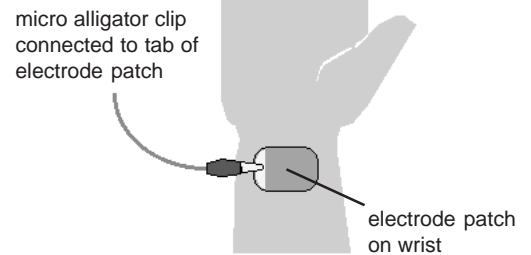

Figure 6
2. Connect the micro alligator clips from the sensor to the tabs on the edges of the electrode patches. See Figure 6.